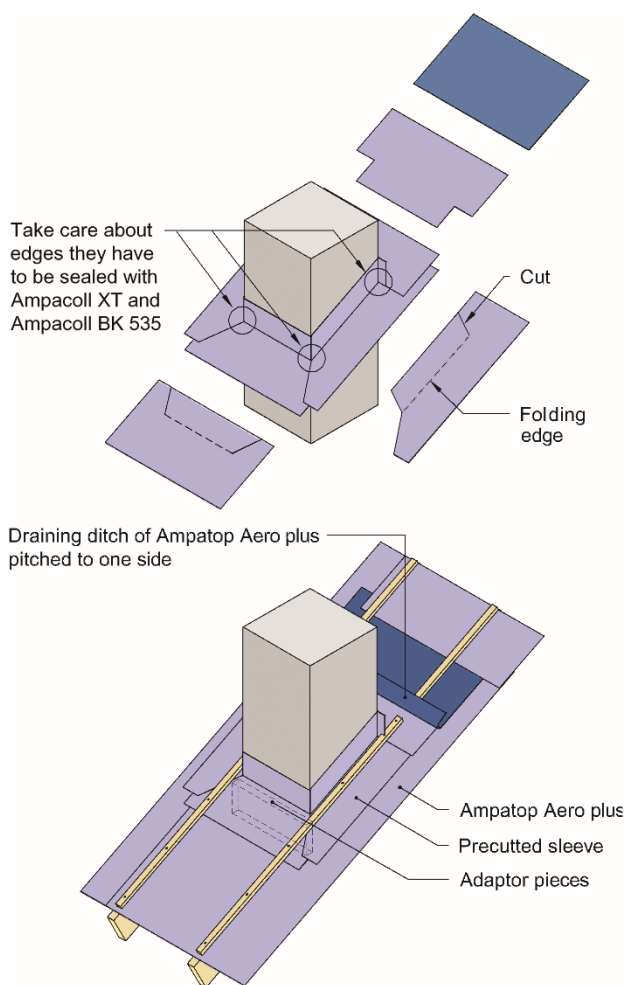

Fig. 2
3) The tapes can be used in areas where water accumulation is usually not possible, like on pitched roofs or vertical surfaces without obstacles transvers to the roof slope. On the outside of bushings, like chimneys etc., additional actions must be taken. See also fig. 2.
Ampatop Aero plus shall be installed with airtight connections to the wind barrier of exterior walls, and with airtight joints at the ridge and valley gutters. In addition, it is important that connections towards roof windows, chimneys etc. are made both water- and airtight, see SINTEF Building Research Design Guide no. 525.101 *Skrå, luftede tretak med isolerte takflater* and 525.866 *Undertak* for details. On the outside of bushings, like chimneys etc., additional actions must be taken, see figure 2.